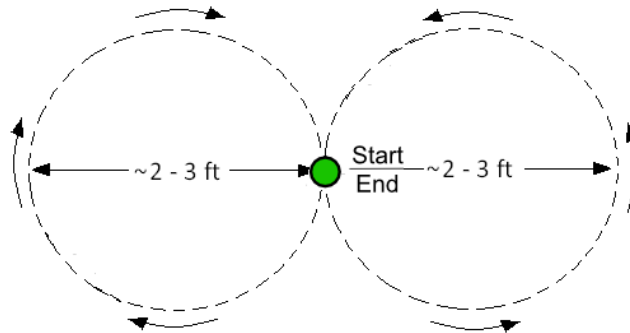

Figure 3: Figure Eight Robot Motion
2. Write a “FigureEight” program to move the robot in a figure eight using two circles (see Figure 3).